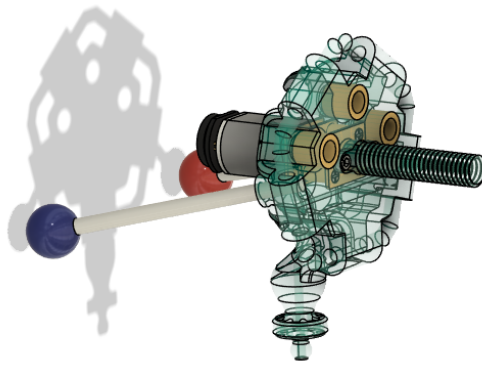

Figure 2: The flower head after the GearMotor and BaseV3 have been joined.
4. Glue ThreadedRod onto the spindle of the GearMotor, then use the M1.6 screws to affix the gear motor to BaseV3. The flower head should now look like Figure 2.